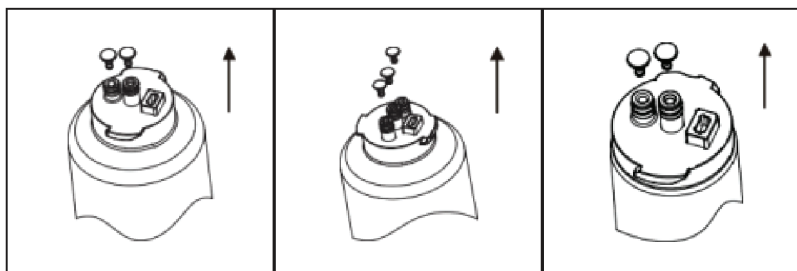

Fig. 2
- 2.2.1 Remove the rubber plugs on the 3 filters according to **Fig. 2** below: